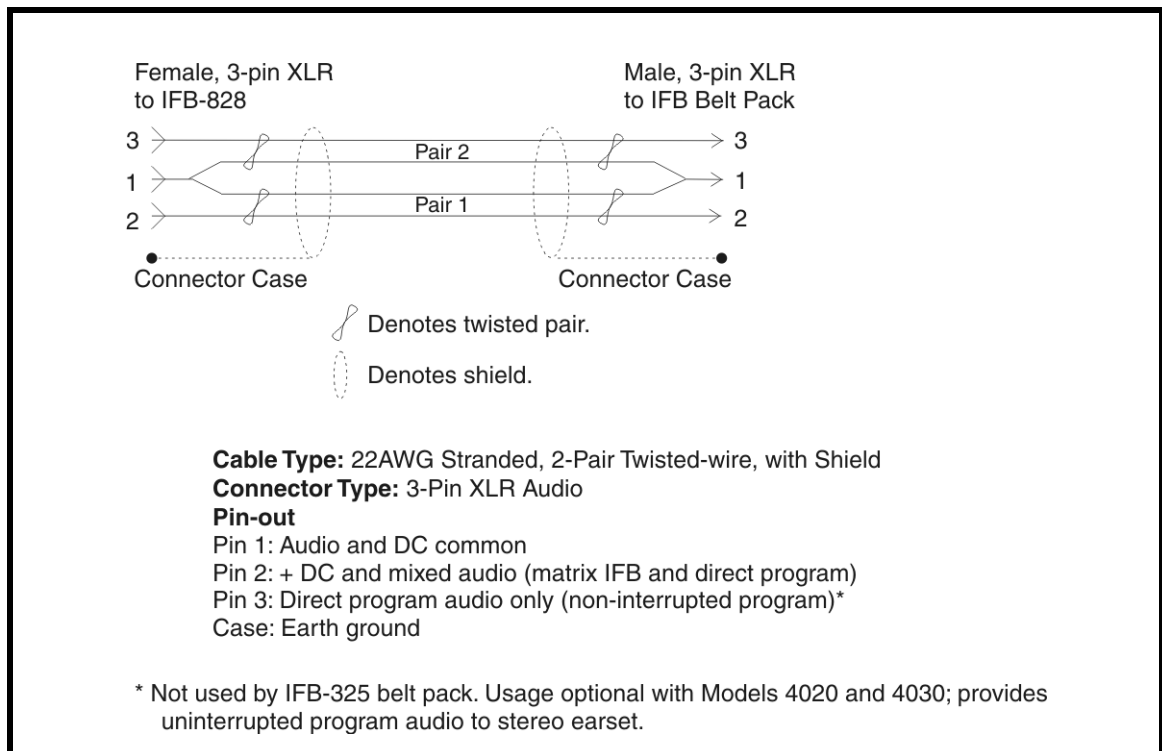

FIGURE 2. IFB Belt Pack Interconnect Cable Wiring Diagram
10. Connect the **appropriate 3-pin XLR output connector** of the IFB-828 to the LINE (or LINES) connector of the IFB belt pack. Typical cable wiring is shown in Figure 2.